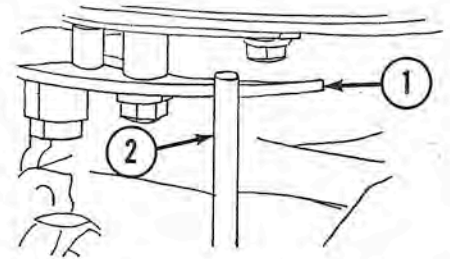

Fig. M27—Schematic view of speed control linkage. Refer to text for details of adjustment.
synchronize the linkage, move the speed control grip until the throttle cam (1—Fig. M27), attached to bottom of the magneto stator plate, is at the front centerline of the power head. Loosen the cam attaching screws and move the cam on stator plate until it contacts follower lever (2) and just starts to open the throttle valve.